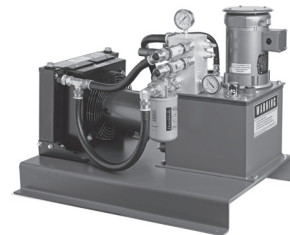

Figure 1 - Cool Lube 2
1. Place the unit in the designated area and anchor it down using the 4 mounting holes in the base plate. The unit should be positioned below the circulating oil drain holes in the bearings so that at least a 15° drain line slope is achieved to allow for adequate oil return (see Figure 1).